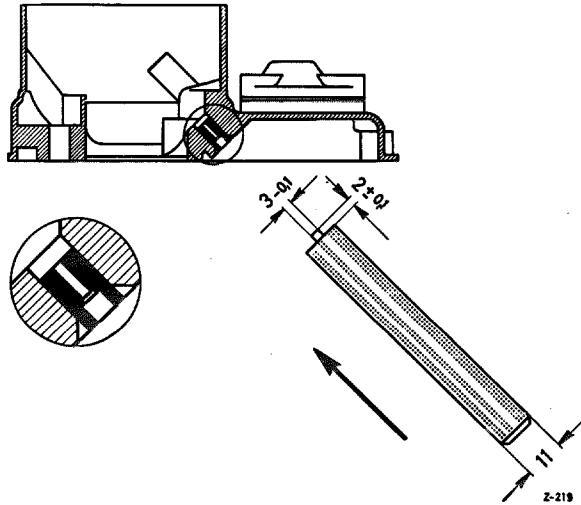

Fig. 07 — 3/6
43. Knock in the graded closing plug from the float chamber side so that the countersunk face of the plug points toward the float chamber (Fig. 07—3/6).
Note: Use a stepped drift to knock in the closing plug (see Fig. 07—3/6) in order to avoid any damage to the bore which is graded 1.5 mm.